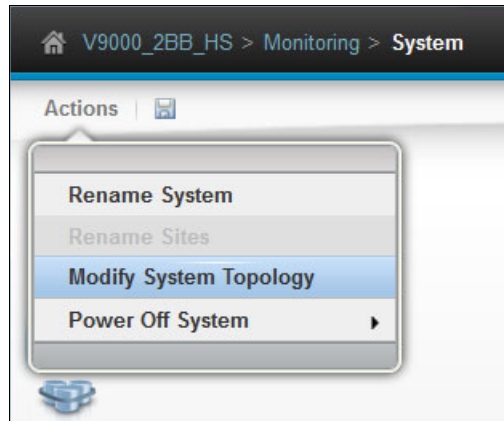

Figure 11-11 Modify System Topology
1. Start the HyperSwap GUI wizard, select **Actions** → **Modify System Topology** (Figure 11-11).